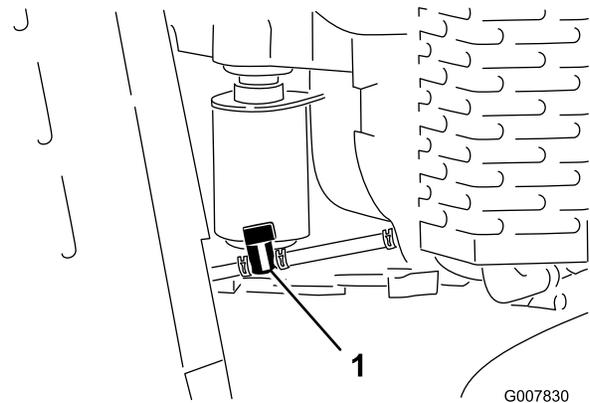

Figure 40
4. Turn the fuel shutoff valve to the closed position (Figure 40).
5. Squeeze the ends of the hose clamp on the engine side of the shutoff valve together and slide it up the fuel line away from valve (Figure 40).
6. Pull the fuel line off the valve (Figure 40).
- Turn the fuel shutoff valve to the closed position (Figure 40).
- Turn the fuel shutoff valve to the open position (Figure 40).